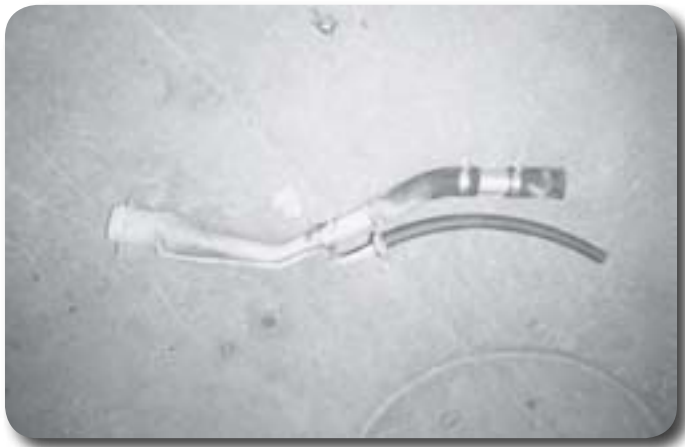

Figure 27
77. Cut the fuel filler hose in half below the bottom bend. Using the provided metal extension and two hose clamps, reassemble the fuel filler tube **Figure 27**. Do not tighten clamps at this time.